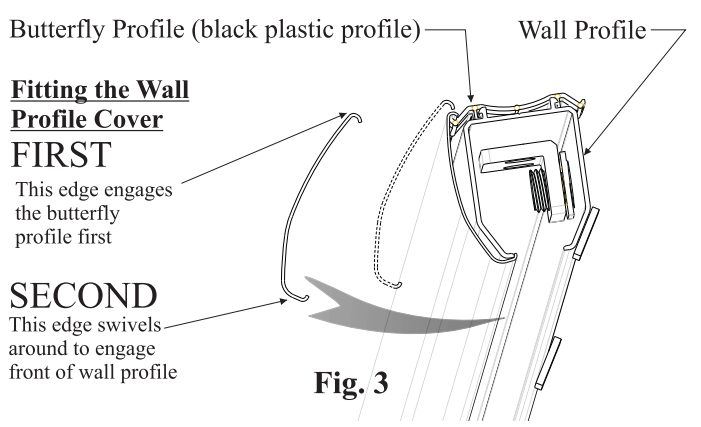
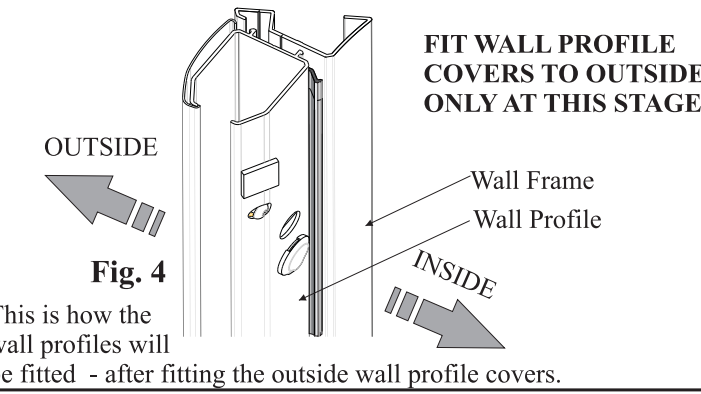

Fig. 3
Fig. 4
- 4 BEFORE INSTALLING WALL PROFILES:** Because it will be difficult to access after the door is installed, it is necessary to clip on the OUTSIDE wall profile covers BEFORE installing the wall profiles. Carefully remove two wall profile covers from the protective packing but DO NOT remove the protective film from the surface of the covers at this time. Clip on the covers to the faces of the wall profiles that will be on the outside of the unit as per the illustration in Fig. 3 and Fig. 4. **DO EXERCISE CARE WHEN HANDLING THESE COVERS TO AVOID DAMAGE.**